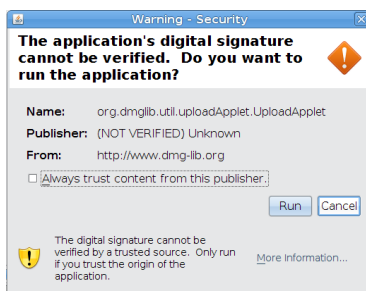
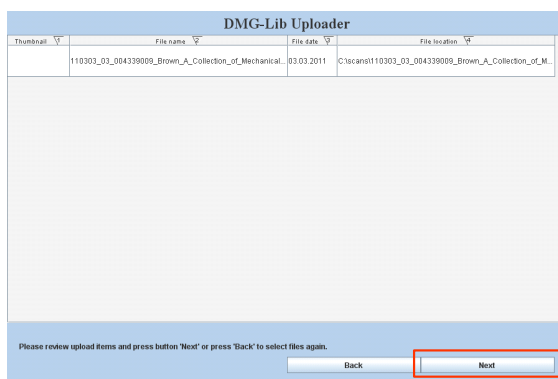

Figure 38 - Pop-up that asks permission to access the local hard drive in order to upload scanned content
Figure 39 - Main window of the Uploader with the list of items scheduled for upload
- An Uploader window will appear and will list the folder selected for upload. Please check if this is the folder you intend to upload and press the **Next** button (Figure 39). Note: Your web-browser may display a security warning since the Uploader needs to access your local hard drive (Figure 38). Please select **Run**.